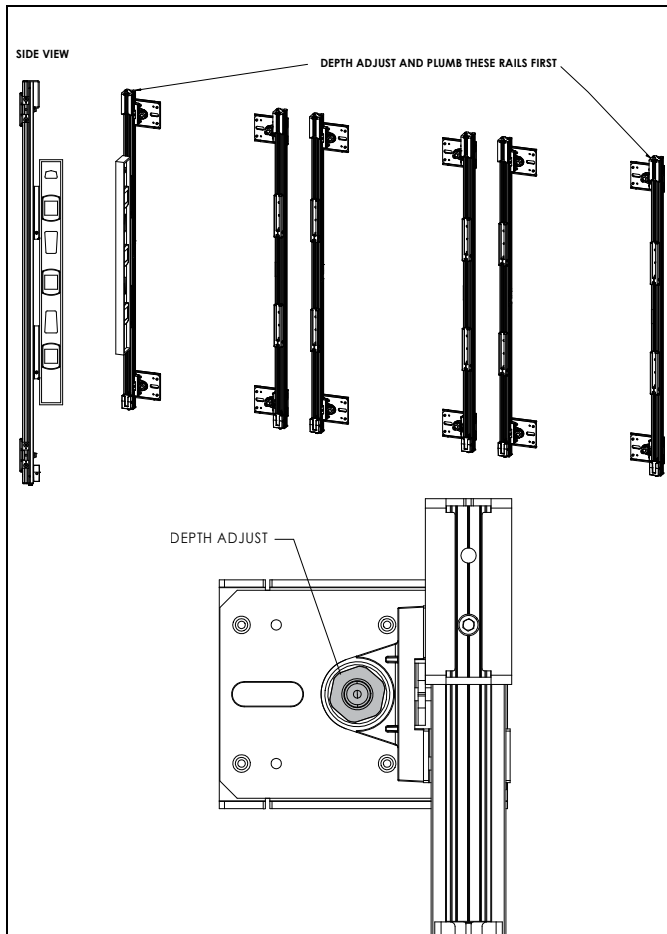

Figure 14
1. After the bottom row has been installed and leveled, adjust the outermost uprights away from the wall 1/4" (approximately four full turns) prior to plumbing middle uprights. Uprights should be adjusted to a point that the mount rail extends past the planar face of all the middle uprights. Depth adjustment is controlled by depth adjustment screws on each upright. (See Figure 14)